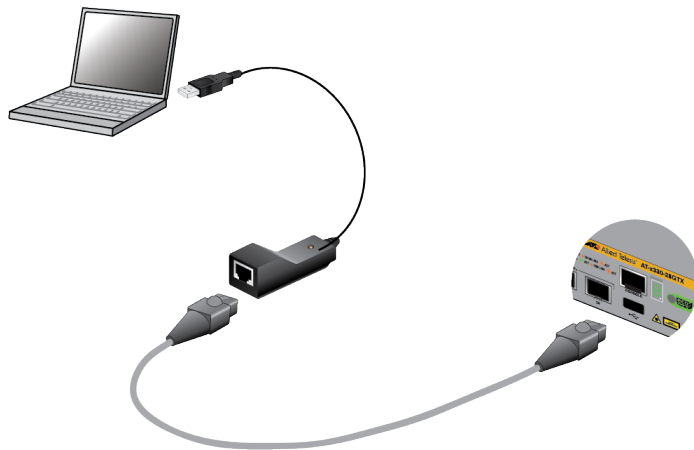

Figure 54. , VT-Kit3 Management Cable with Workstation and Switch
- ❑ If your computer has a USB port, use a USB-to-Serial converter. To use the VT-Kit3 from Allied Telesis, connect the USB connector on the VT-Kit3 to a USB port on your computer or terminal. To connect the kit to the Console port on the switch, use a standard, straight-through Ethernet cable. Refer to Figure 54.